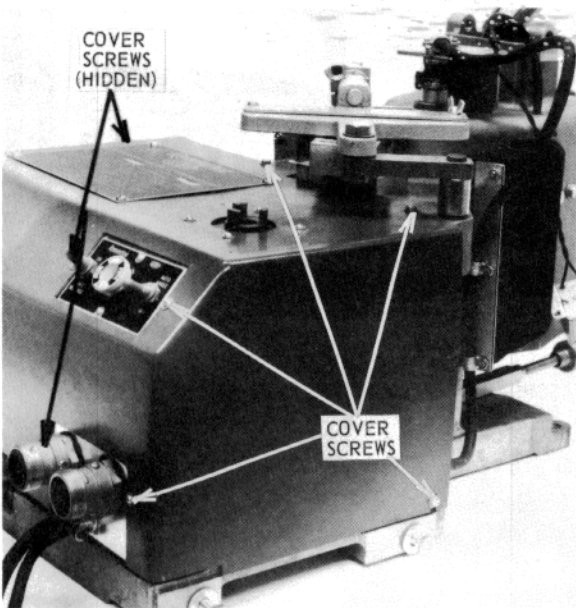

Figure 42 – Cover
- 2.1.2 Remove the cover by taking out the eight cover screws (see Figure 42).